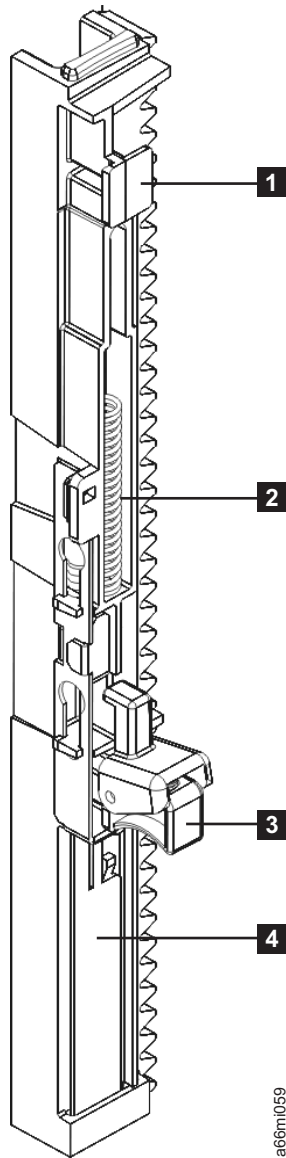

Figure 8-59. Gear rack (detail)
6. Remove the gear rack by pulling the black tab (**1** in Figure 8-59 on page 8-62) and the gear rack locking mechanism (**3** in Figure 8-59 on page 8-62) through the keyhole slots.
Note: Don't lose the spring (**2** in Figure 8-59 on page 8-62) that is recessed in the gear rack slot.
2. Using your thumb, push the metal slide (**4** in Figure 8-59) toward the gear rack locking mechanism (**3** in Figure 8-59) and hold it in place while inserting the black tab (**1** in Figure 8-59) and locking mechanism into the keyhole slots in the library chassis.